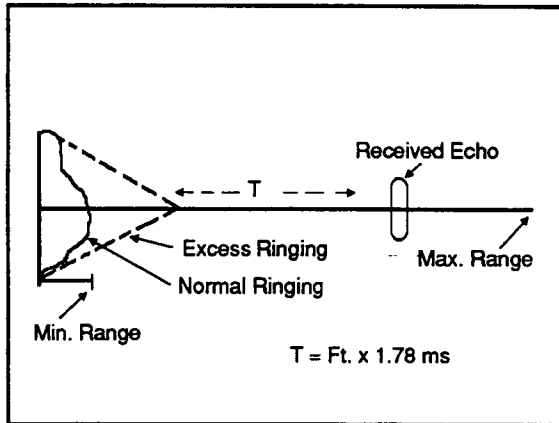

Figure 2-1. (TP5) Transmit Burst.
5. If your system is working properly, you should see a signal similar to Figure 2-1. Adjust your horizontal position control so the transmit pulse is at the beginning of the display. You may have to adjust the trigger level knob to stabilize the image. Adjust the vertical position knob to center the image vertically.
The transmit pulse should not "ring" any longer than a time corresponding to the minimum range for your unit (1.8 ms for 20', 3.6 ms for 50', 5.4 ms for 100') see Figure 2-1. If the transmit pulse is too long, consult the factory for advice. You can temporarily extend the minimum range (Function E) if you wish to avoid detecting the ringing, but you will not be able to measure any material within whatever distance you have entered in Function E. The minimum range parameter adjusts the time that the receiver is turned off. Extending the minimum range will help avoid receiving the actual transmission.